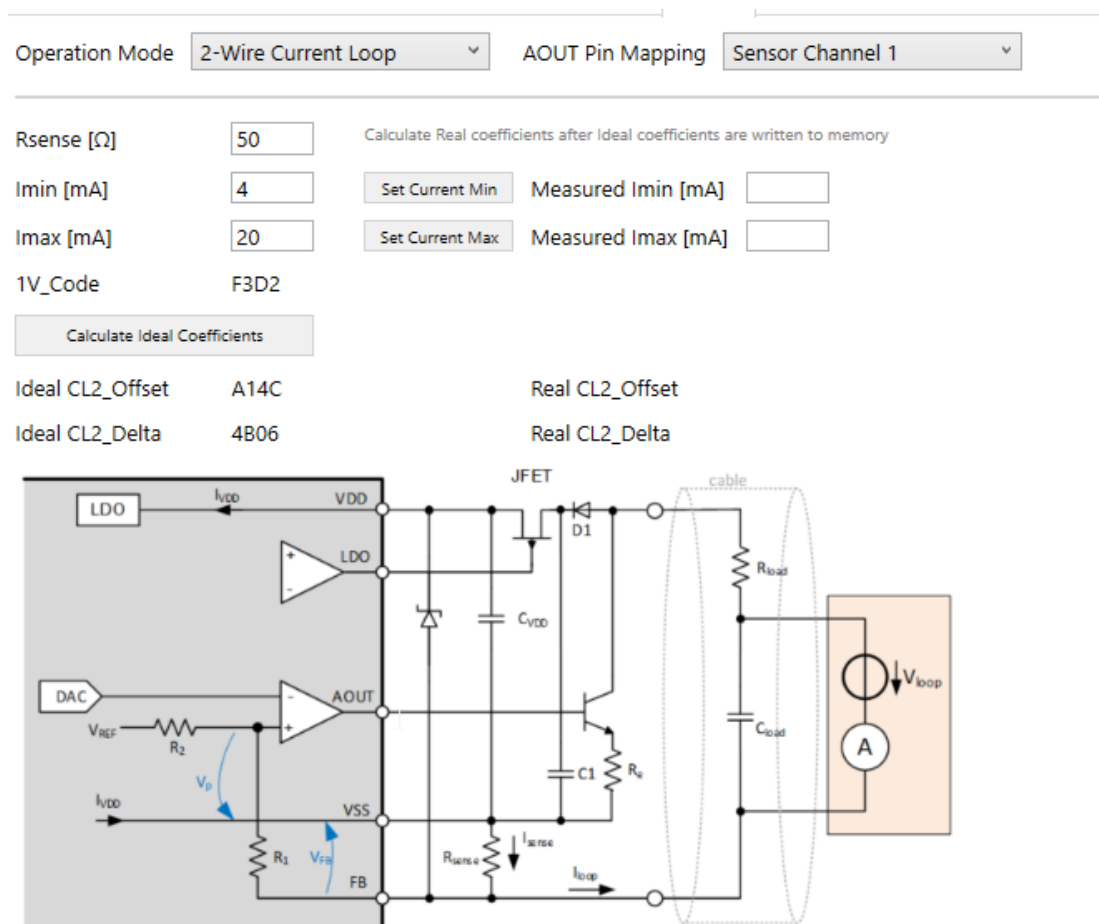

Figure 129. 2-Wire Current Loop Calibration
2. Click the 'Calculate Ideal Coefficients' button (see Figure 129).